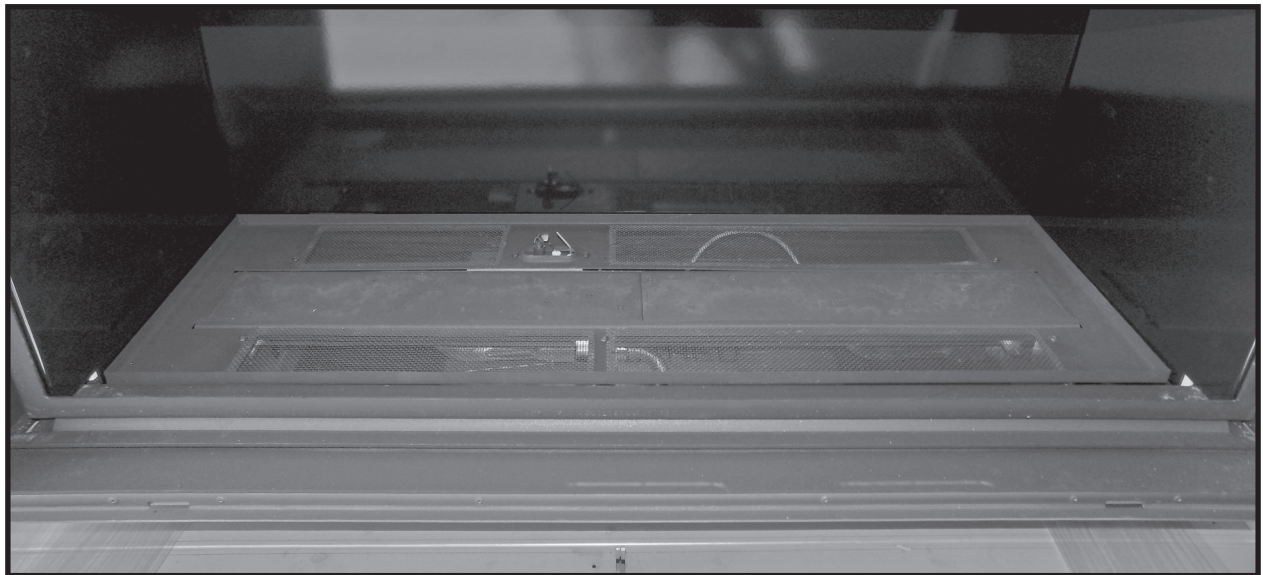

Figure 58: Burner tray installed and secured.
6. Install the burner tray and secure with provided screws (Figure 58).
2. Remove media (sand or glass) completely and remove the fastened burner tray (Figure 58).